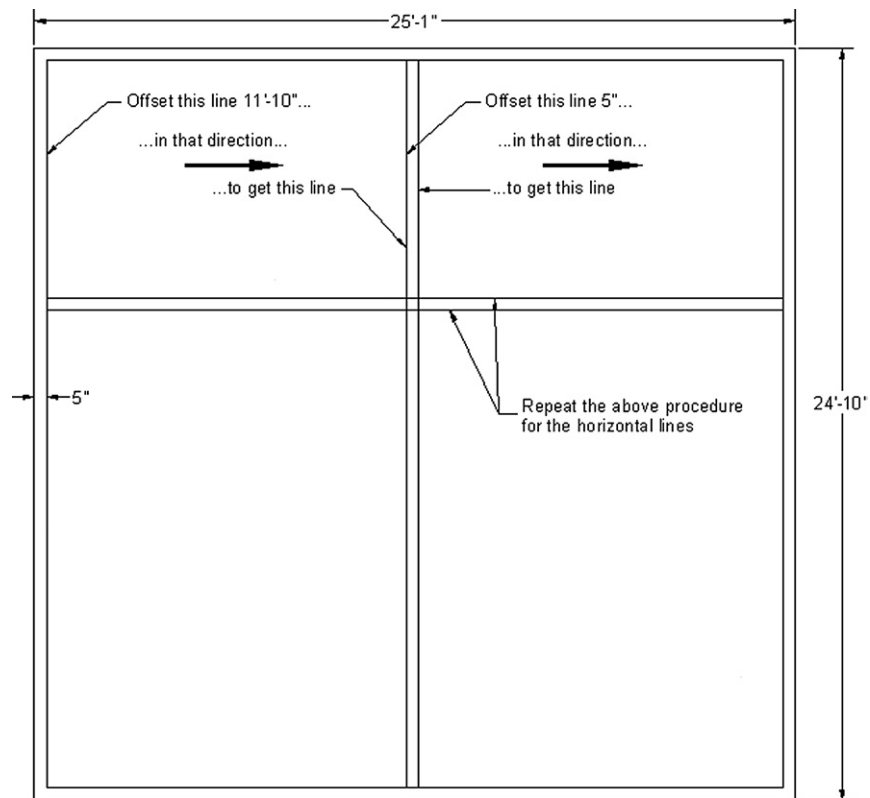

FIGURE 3.15
8. Offset the inner left vertical wall 11'-10" to the right to create part of the kitchen wall. Then, right away, offset 5" for the thickness of the wall. Repeat with the inner top horizontal wall (offset 7'-10") to get the lower part of the kitchen. Offset 5" below that line for thickness. Figure 3.15 illustrates this. Note that, along the way, you will run into fractional lengths to offset (11'-8½" for example). One way to enter fractions is to simply type in a decimal equivalent (11'8.5 in this case).